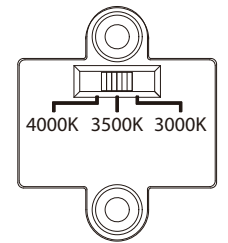
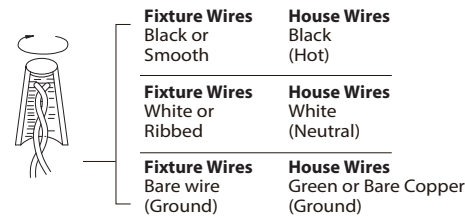

Fig. 2 Wiring
Fig. 3 Wire Diagram
Make sure to identify and label all the wiring properly before any trimming/shortening. (Fig. 3)
CONNECTING THE WIRES (Fig. 2/Fig. 3)
7. Connect the driver's input/output wires to junction box wires and 3CCT switch wires as shown in Fig. 3, make sure that all wire connectors (A) (C) are secured. If your outlet box has a green or bare copper ground wire, connect the fixture's ground wire to it. Otherwise, connect the fixture's ground wire directly to the back plate using the screw provided. After wires are connected, tuck them carefully inside the junction box.
8. Secure the fixture by mounting the canopy to the mounting plate. Slide the canopy in the direction of the notch until it latches in place. Fasten the canopy to the mounting plate using the mounting screw (B).